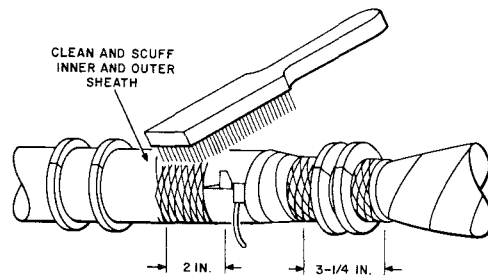

Fig. 13—Scuffing Inner and Outer Jacket
3.21 Thoroughly scuff the sheath as illustrated in Fig. 13.